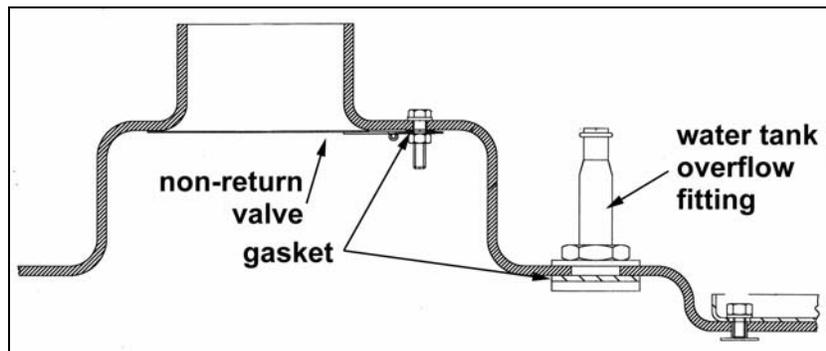

FIGURE 5 : SUMP TANK DETAIL
16. Remove the water tank overflow fitting (figure 5).
17. Remove the non-return valve on the sump tank (figure 5).
20. Install the non-return valve on the new sump tank (figure 5).
21. Install the water tank overflow fitting on the new sump tank (figure 5).